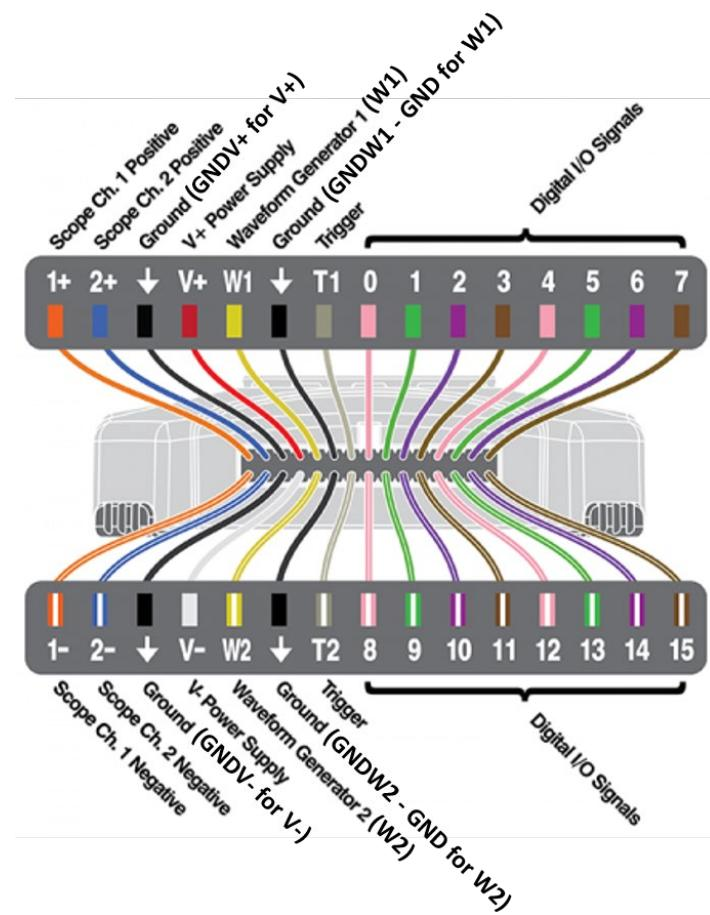
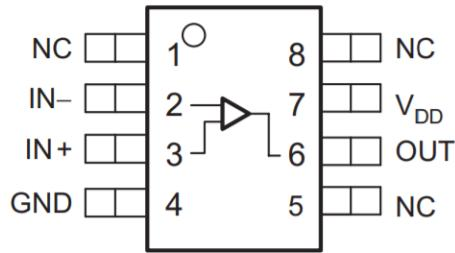

Fig. 2 Diagram for the port definition of an Analog Discovery 2 (or 3) (AD2/3)
Fig. 3 Pin Configuration of Op-Amp TLV2371
- 1.4 Use the port definition diagram of the AD2/3 shown in Fig. 2 and the pin configuration of Op-Amp TLV2371 in Fig. 3 when setting up your circuits.